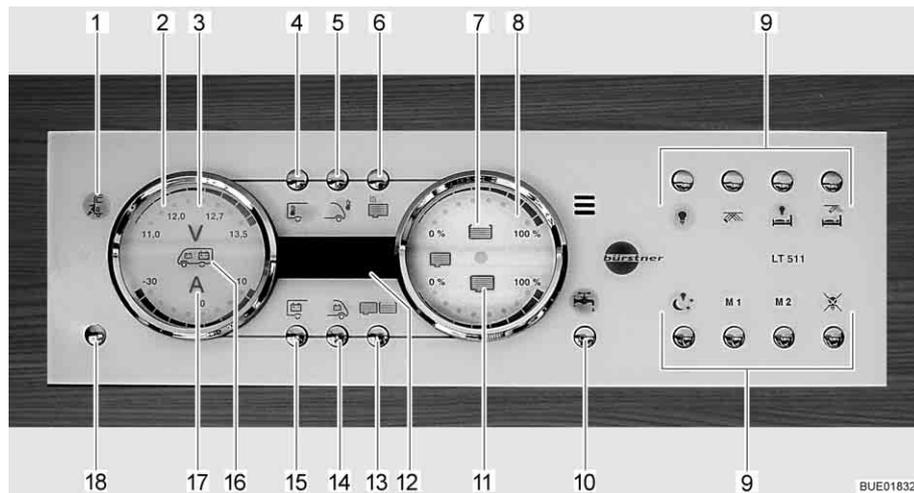

Fig. 159 Panel LT 511
The 230 V indicator lamp (Fig. 159,1) illuminates whenever line voltage is available at the transformer/rectifier input.
The 12 V main switch (Fig. 159,18) switches the panel and the 12 V power supply of the living area on and off.
- Briefly press the 12 V power supply button (Fig. 159,18). The 12 V living area power supply is switched on. The "12 V" indicator lights up.
- ▷ If, after switching on, the "11.0" LED of the volt indicator and the "V" volt symbol (Fig. 159,3) in the batteries gauge (Fig. 159,2) flash, the voltage of the living area battery is too low. Charge battery.
- ▷ If, after switching on, the "12 V" indicator and the "V" volt symbol (Fig. 159,3) flash three times, battery separation is activated. Deactivate battery separation.
- Briefly press the 12 V power supply button (Fig. 159,18). The 12 V living area power supply is switched off. The "12 V power supply" indicator goes out.
- Press button for living area battery (Fig. 159,15) and hold it down for approx. 10 seconds. The "V" volt symbol (Fig. 159,3) and the "12 V" indicator flash three times. The living area battery is disconnected from the 12 V power supply.
- Press the 12 V power supply button (Fig. 159,18) and hold it down for approx. 5 seconds. The "V" volt symbol (Fig. 159,3) and the "12 V" indicator flash three times. The living area battery is connected to the 12 V power supply. The indicator lights up after approx. 5 seconds.
- Press button for living area battery (Fig. 159,15). The "V" volt symbol (Fig. 159,3) lights up. The "A" ampere symbol (Fig. 159,17) lights up as either white or red depending on whether it is charging or discharging. The battery voltage and electricity of the living area battery are displayed via the LEDs in the gauge.
- Press button for starter battery (Fig. 159,14). The "V" volt symbol (Fig. 159,3) lights up. The battery voltage of the starter battery is displayed using the LEDs in the gauge.
- Press tanks button (Fig. 159,13). The water tank (Fig. 159,7) and waste water tank (Fig. 159,11) symbols light up. The fill levels of the water tank (upper scale) and of the waste water tank (lower scale) are indicated using the LEDs in the gauge.
**Tank alarm** The water tank symbol (Fig. 159,7) or waste water tank symbol (Fig. 159,11) flashes when the water tank is empty or the waste water tank is full.
The internal and external temperatures can be indicated using the digital display (Fig. 159,12).
- Press the button for the internal temperature (Fig. 159,4). The internal temperature is displayed.
- Press external temperature button (Fig. 159,5). The external temperature is displayed.
The tank heater can be turned on and off using the tank heater button (Fig. 159,6).